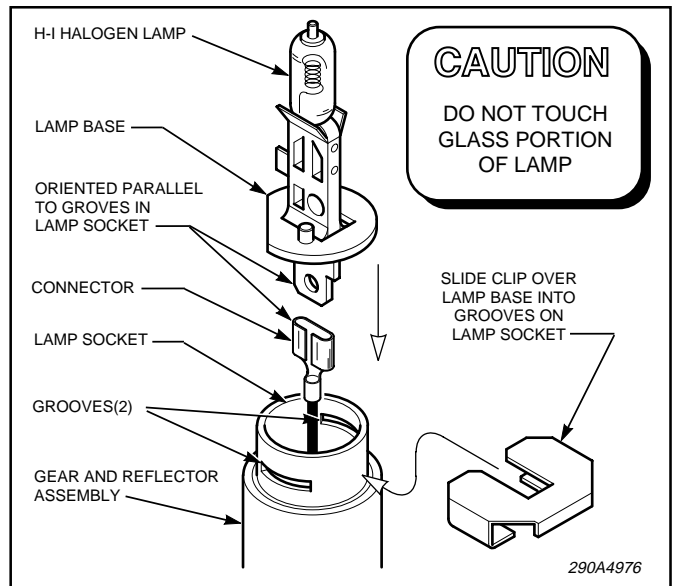

Figure 1.
2. *Halogen Lamp Replacement (see figure 1).*